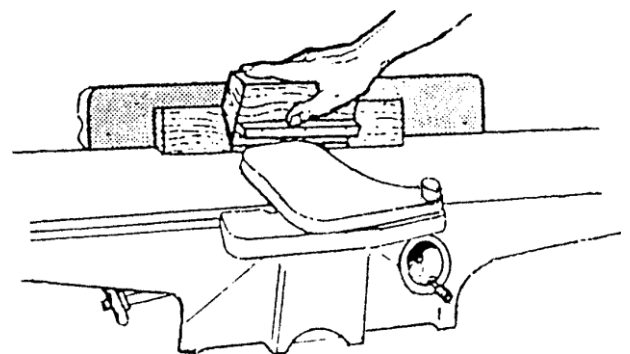

Fig. 40
7. Keep thumb above the ledge on hold down block (Fig. 40).